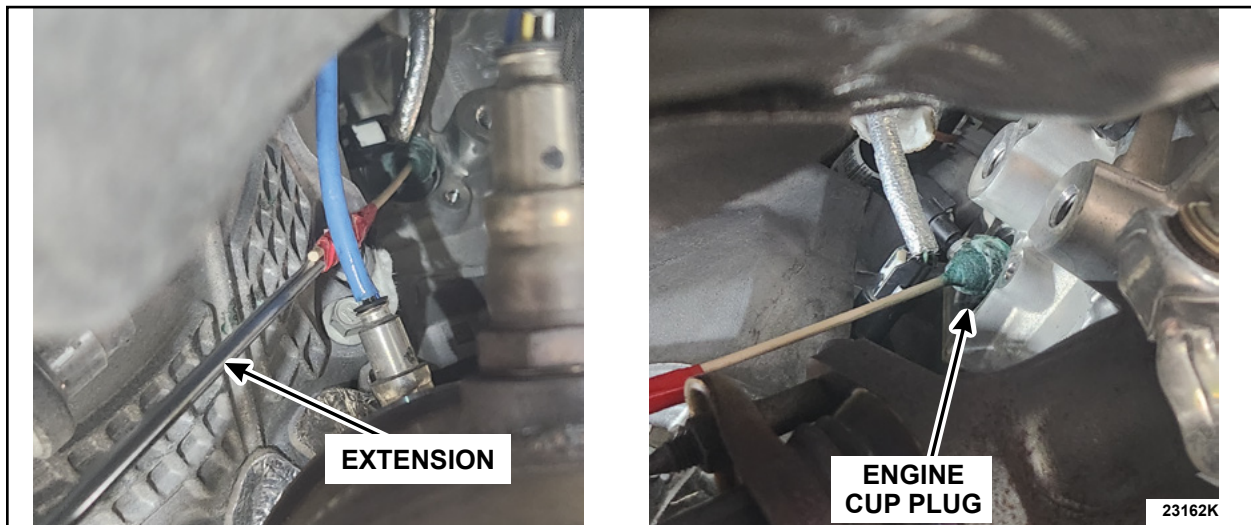

FIGURE 15
12. Using the fully saturated swab, apply a generous amount of Loctite 290 around the full perimeter of both engine cup plugs so that it wicks around the sealing surface completely. See Figure 15.
NOTE: It may be necessary to attach the swab to an extension to reach the cup plug. See Figure 15.